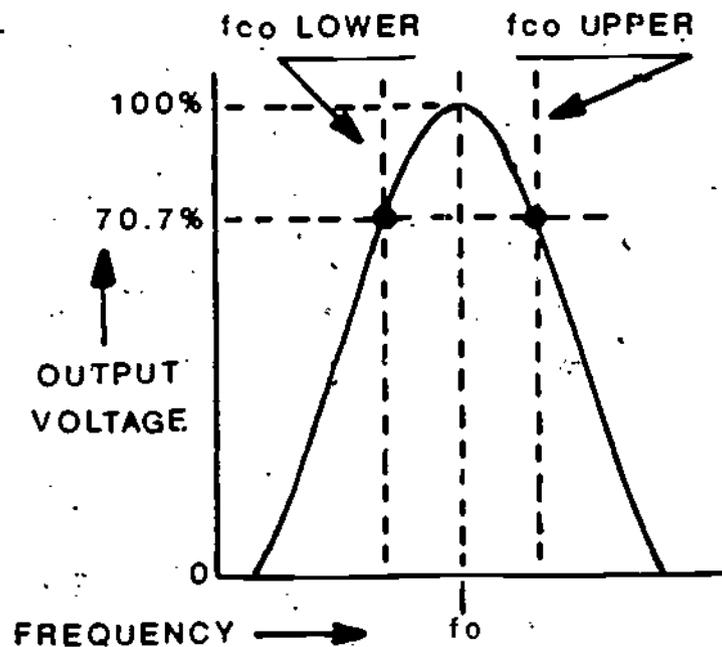

Figure 3
6. If our input frequency varies either above or below the center frequency of the amplifier, the signal will still be amplified, but to a lesser amount than at  $F_0$ . Figure 3 shows the amplitude of the output voltages at various frequencies of the input voltage.